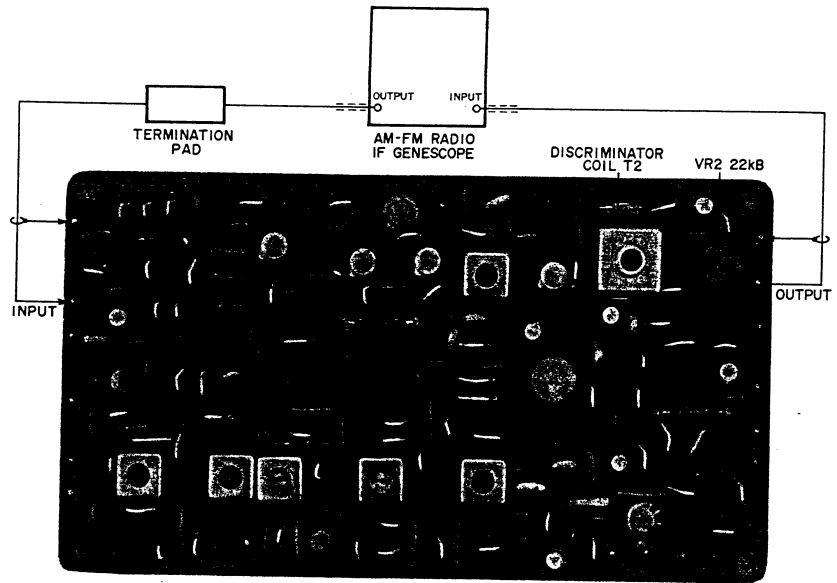

Fig. 3 INSTRUMENT CONNECTIONS
- 1) Connect the lead wires from an AM-FM Radio IF GENESCOPE (hereinafter referred to as GENESCO) to the input as well as the output of the FM-AM IF P.C. Board as shown in Fig. 3.